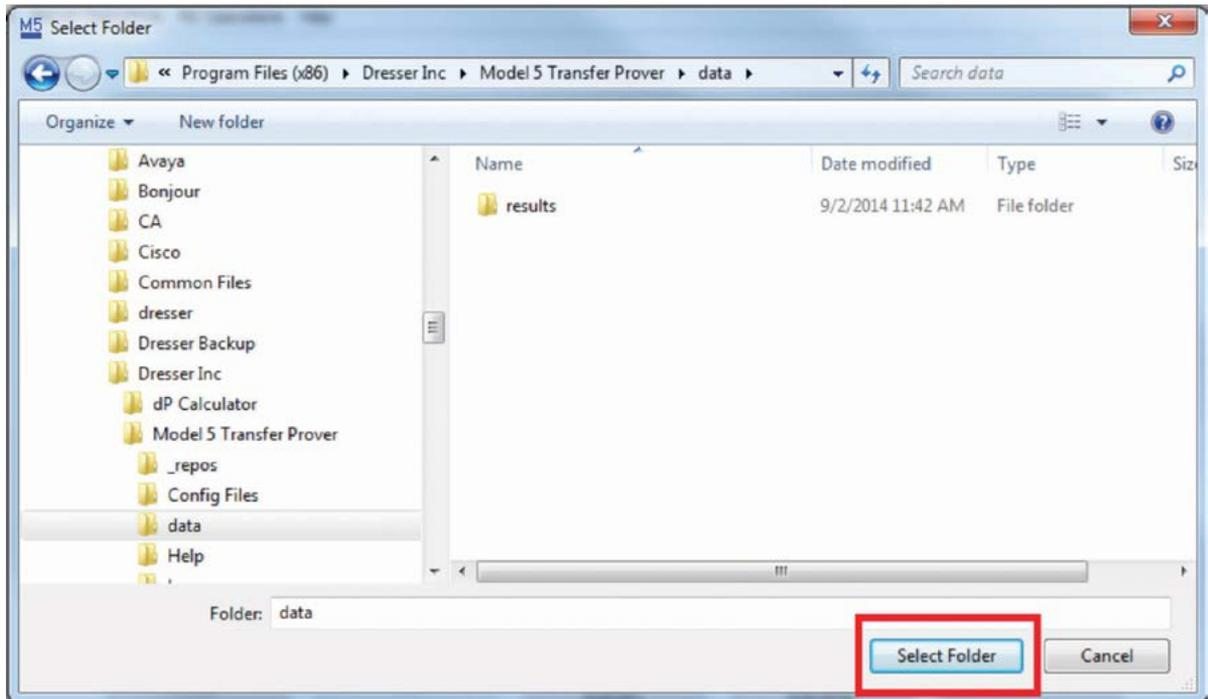

Figure 110: Select Folder Selection
4. A "Select Folder" window will open. Navigate to the desired path and click the button entitled "Select Folder". See **Figure 110**.